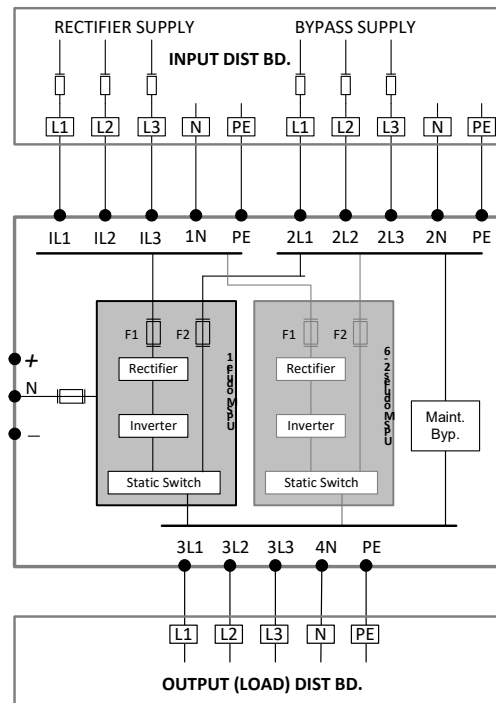

Figure 3.9 Connection diagram for single input feed and dual input feed
Refer to the schematic drawing and connection table in Figure 3.9.
1. Connect the protective earth cable from the output (load) switchgear panel to the UPS output protective earth (PE) terminal, as shown in Figure 3.9.